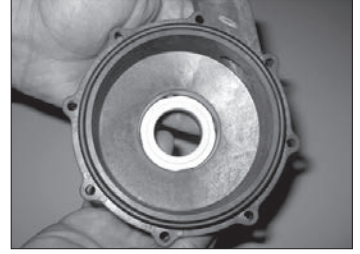

Figure 32
2. Install o-ring (item 2) onto housing (item 1). Lubricate the o-ring with P80 or a compatible lubricant. If o-ring will not stay in place it may be necessary to roll the o-ring under when installing it on the housing. See figure 32.